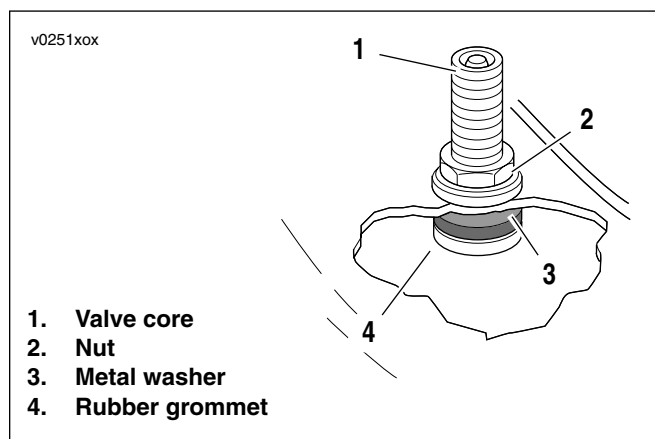

Figure 2-95. Valve Stem (typical)
1. See Figure 2-95. Replace damaged or leaking valve stems.